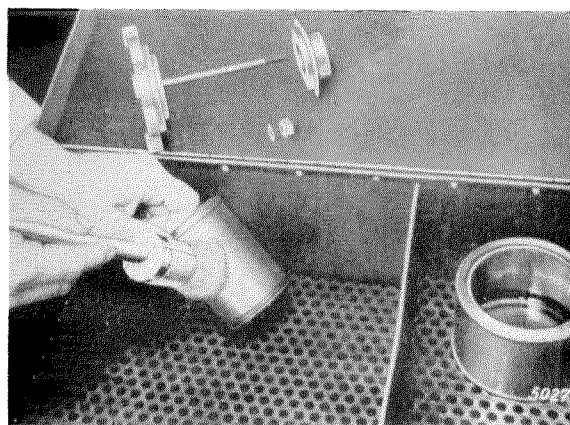

Figure 18-9/6
Note: In order to clean the oil filter the upper part of the oil filter housing (7) is not removed from the engine (Figure 18-9/5).
1. Unscrew the hexagon screw (16) and remove the filter bowl (1) from the upper part of the oil filter housing (7). **Caution!** Hold the filter bowl upright, because the bowl is filled with oil (see Figure 18-9/5).
2. Unscrew the nut (5), then take out the outlet ring (4) and the metal filter element (3) (Figure 18-9/5).
1. Clean the metal filter element (wire coil element) in the parts cleaning equipment. If such an equipment is not available, the filter element must be cleaned in Tri lye. To do this, place the element into the Tri lye for some time to soften and then clean with a brush (see Figure 18-9/6).
2. Also clean thoroughly the filter bowl and the outlet ring of the bowl-type oil filter and/or the inside of the filter housing of the horizontally arranged oil filter. Furthermore, on the horizontally arranged oil filters check with wire whether the 2 mm hole in the filter housing is open (see Figure 18-9/3).